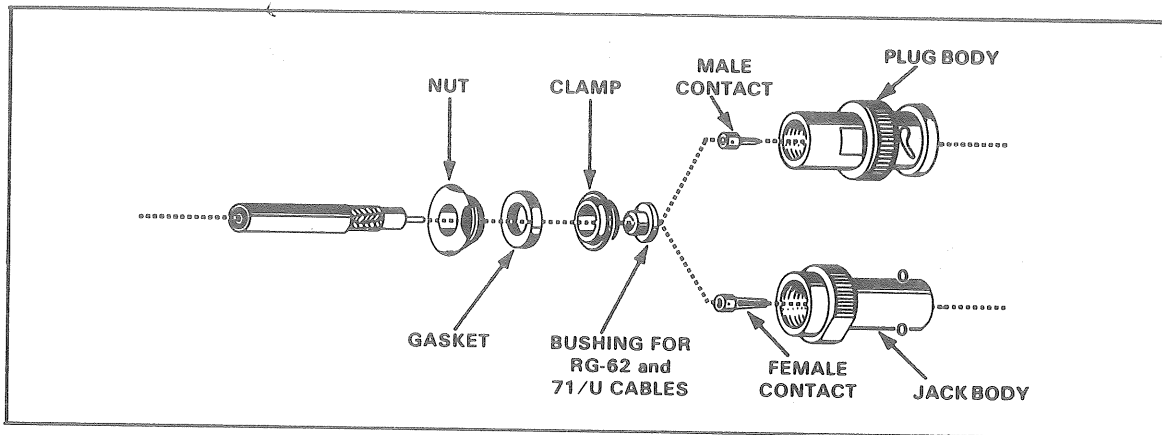

Figure 2. Exploded view of BNC connector and coaxial cable.
11. Slip contact over center conductor so that contact butts flush against dielectric. Solder, using a clean, well tinned soldering iron. Contact must be flush against dielectric after solder has cooled; if it is not, remake joint (fig 2).
12. Push cable assembly into connector body as far as it will go. Make sure gasket is properly seated, with sharp edge of sleeve clamp entering gasket groove. Slide nut into connector body and fasten. Start nut by hand and tighten with end wrench until enough pressure is applied to make a good seal by splitting the gasket (fig 2).